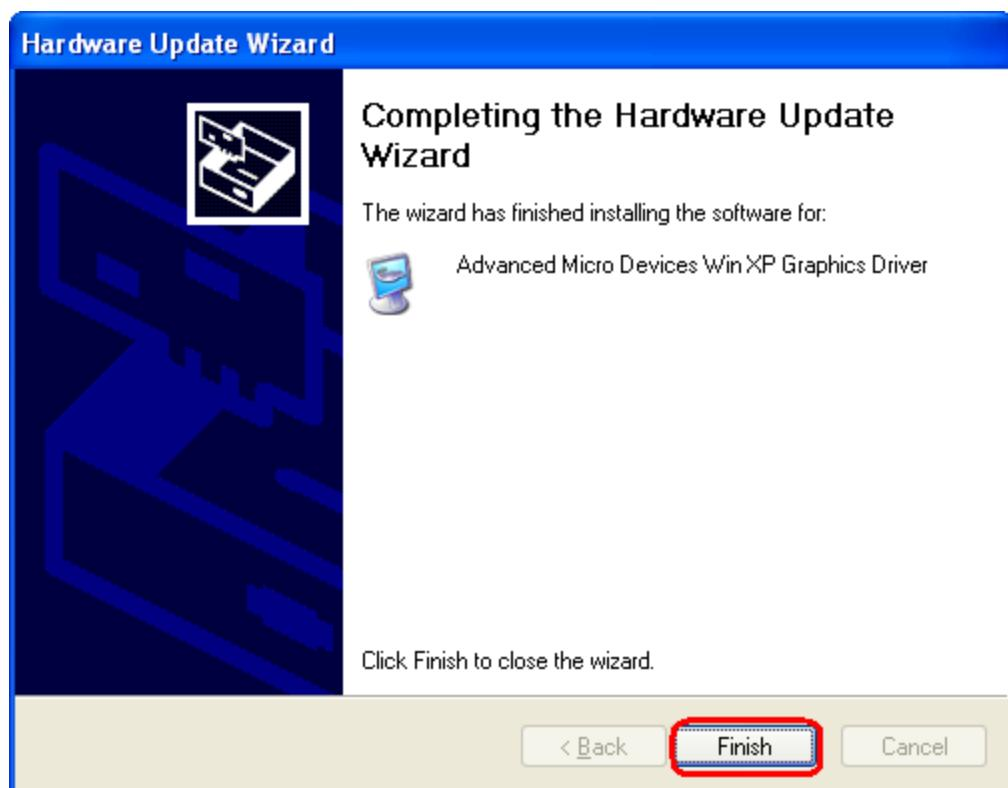

Figure 7-14: VGA Driver Installation Complete
Step 25: When the driver is installed, the screen in **Figure 7-14** appears.
Step 26: Click the Finish tab in to complete the **Figure 7-14** installation.